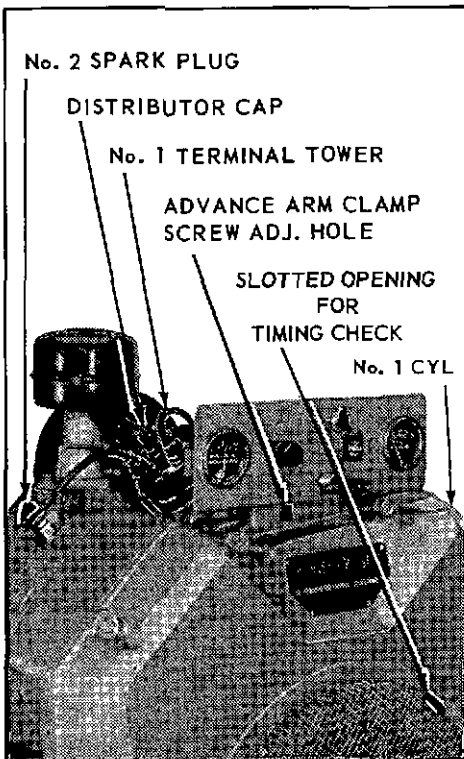

Fig. 17
1. With reference to Fig. 17, insert a small screwdriver into the No. 1 terminal tower on the distributor cap, making contact with the spark plug wire terminal. Connect the red terminal clip, from a conventional automotive type **Timing Light**, to the metal portion of the screwdriver. One of the other two timing light wires is connected to the battery, and the other to the ground.
3. If timing is incorrect, loosen the advance arm clamp screw at the base of the distributor. A screwdriver clearance hole is provided in the flywheel shroud as shown in Fig. 17.